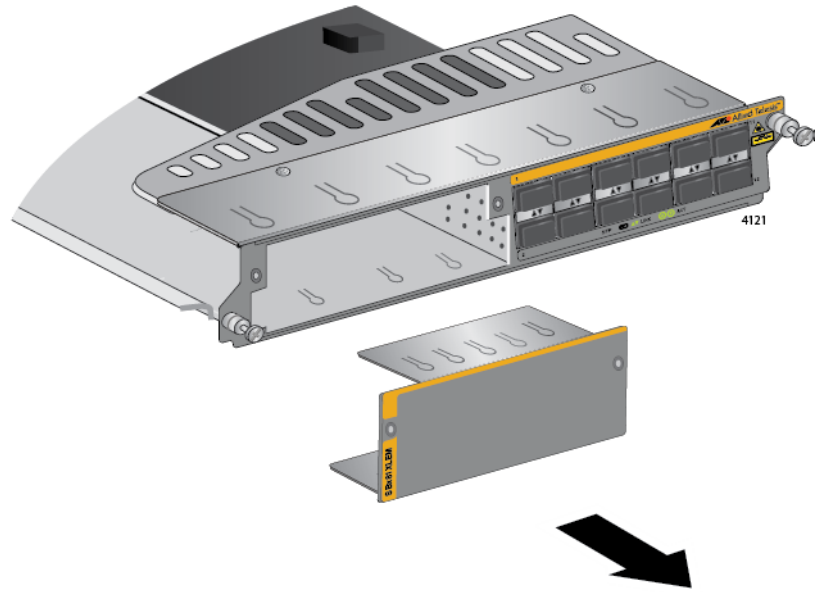

Figure 80. Removing the Blank Slot Cover from the AT-SBx81XLEM Line Card
5. Slide the blank slot cover from the slot. Refer to Figure 80 on page 146.